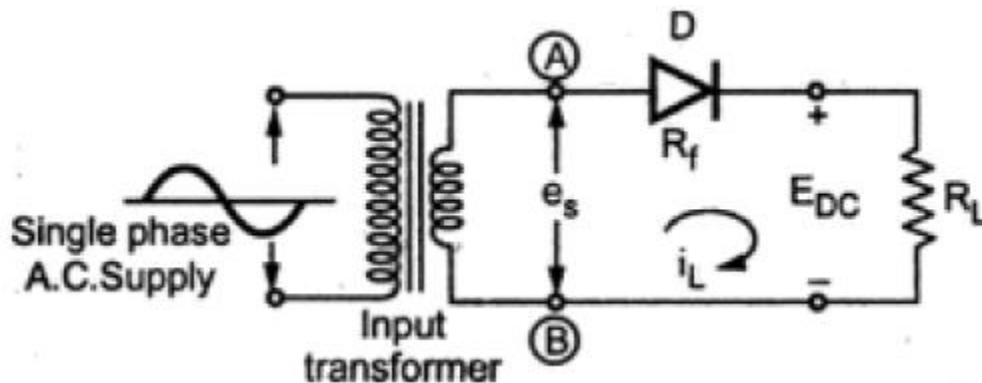

Fig. 1.21 Half wave rectifier
- The circuit diagram is shown in the Fig. 1.21.